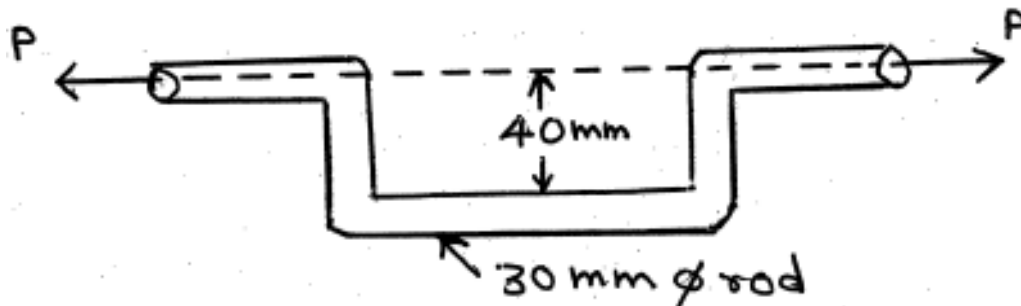

Fig. No. 04
- f) A 30 mm diameter rod is bent up to form an offset link as shown in Fig. No.04. If permissible tensile stress is 80 MPa, determine the maximum value of P. 4